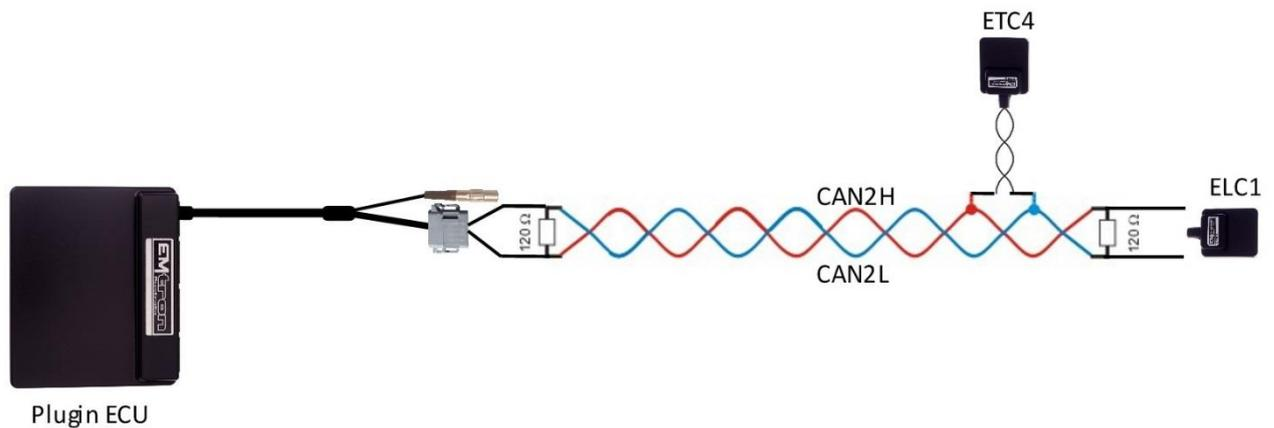

Figure 3.1. CAN Bus Wiring Example. ECU and ELC1 at each end with 120 Ohm Termination
- CAN Bus termination must be done correctly by using a 120 ohm 0.25W resistor at each END of the bus system. See the example in Figure 3.1.